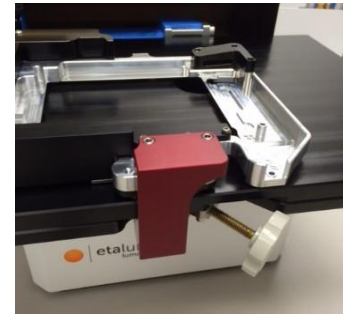

Fig 1. Shipping lock installed on LS720
5. Unplug the power and USB cable from the LS720. Slide shipping lock into position at front of deck just left of the Deck Knob (Fig 1) so the 2 holes in the shipping lock line up with 2 holes on the front underside of the deck. Screw in the two 1-inch screws (Fig 3) until tight using the supplied 3 mm hex wrench (official torque is 16 in-pounds).